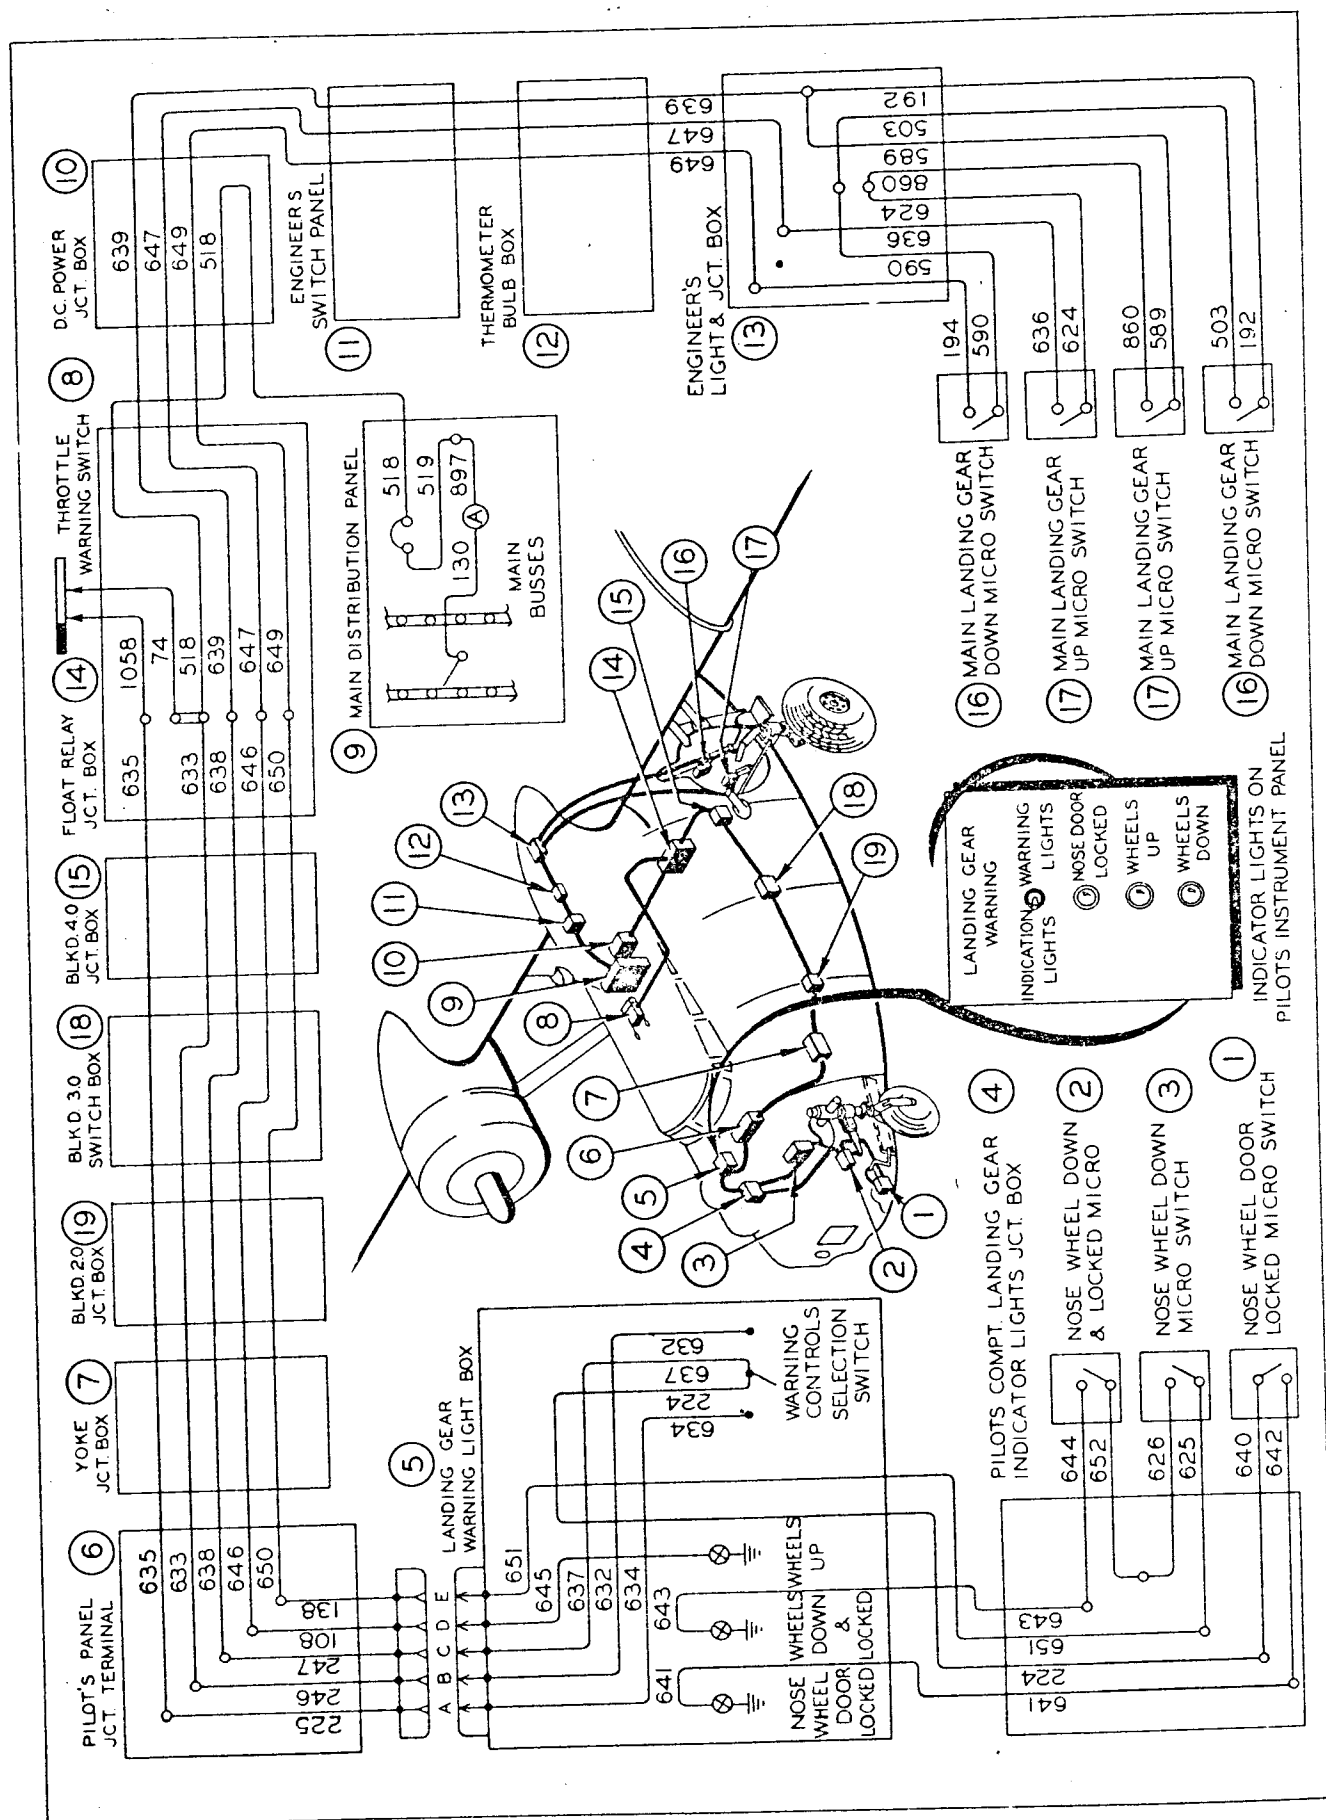

Figure 228—Landing Gear Position Indicator Circuit (PBX-5A Only)
(1) DESCRIPTION. (See figure 228.)—The landing gear position indicating system is provided for the purpose of giving the pilot or copilot a visual indication of the positions of the main landing gear, the nose wheel, and the nose wheel doors. The indicating portion of the system is protected by a five ampere fuse located on the main distribution panel, and consists of three indicating lights labeled "WHEEL DOOR LOCKED," "WHEELS UP" and "WHEELS DOWN" and also a double throw toggle switch having two positions labeled "INDICATION LIGHTS" and "WARNING LIGHTS." The toggle switch and indicating lights are located on the starboard side of the pilot's instrument panel. The indicator lights and a number of micro-switches, located near the landing gear, are connected to the outer position of the double throw toggle switch as follows:
(h) Inspect wires and wire terminals in junction boxes shown on wiring diagram. (See figure 228.)
Defective or loose wiring connections in landing gear "UP" circuit.	Check and correct. (See figure 228.)